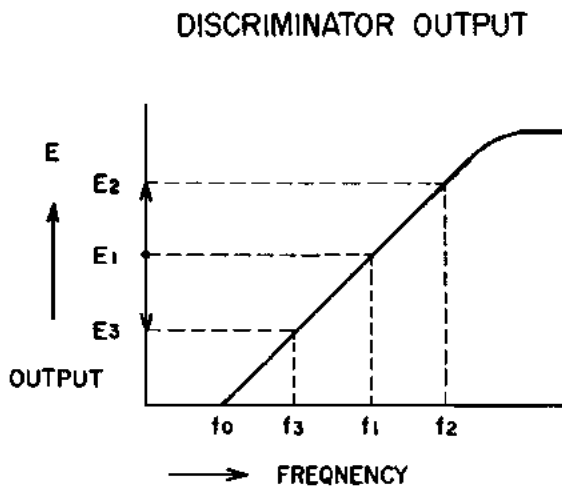
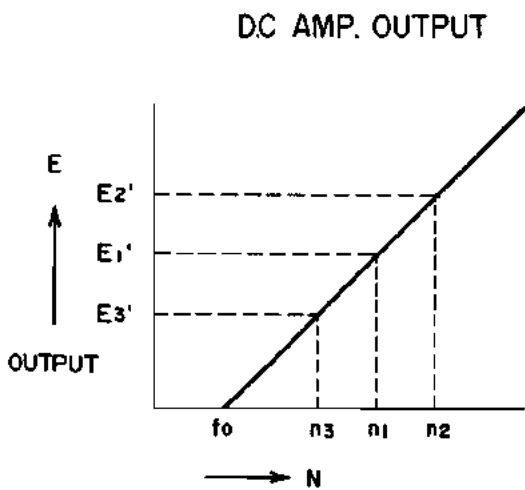

Fig. 9
Fig. 10
- 4) As shown in Fig. 9, the Discriminator emits an E_1 output which is the result of the f_1 frequency when motor revolutions are correct. This E_1 is amplified at DC Amp and is supplied to the Servo Coil. The motor revolutions at this time is referred to as n_1 and Brake Voltage E'_1 generates. The magnetic braking (produced by this E'_1) and load torque is balanced with motor torque and normal revolutions n_1 is maintained. (The main motor revolutions when no magnetic braking is applied is about 1460 r.p.m at 50 Hz, and about 1730 r.p.m at 60 Hz).
coil becomes slightly high. At this time, the frequency is referred to as f_2 . As shown in Fig. 9, the Discriminator output becomes larger than E_1 and E_2 output is emitted. As shown in Fig. 10, a DC Amp output of E_2' is obtained.
- 6) If the motor speed is slow, the frequency detected by the pick-up coil is slightly low. At this time, the frequency is referred to as f_3 . As shown in Fig. 9, the Discriminator output becomes smaller than E_1 and E_3 output is emitted. As shown in Fig. 10, a DC Amp output of E_3' is obtained. Because E_3' is smaller than E_1' , the magnetic braking becomes weaker, and motor speed is increased for return to n_1 point. Thus, revolutions are stabilized and n_1 normal revolutions are maintained.